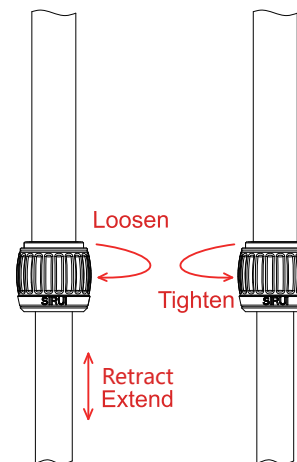
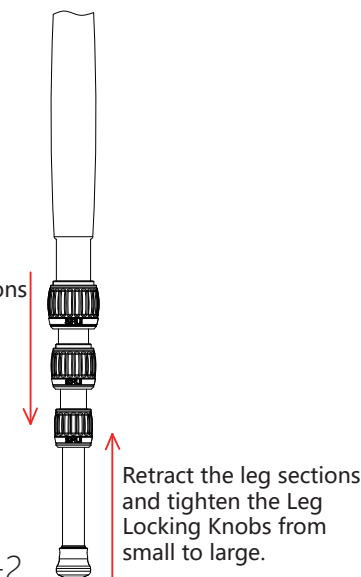

Fig. 2-1
Fig. 2-2
2. Extend or Retract the Tripod Legs (Fig.2-1 and Fig.2-2)